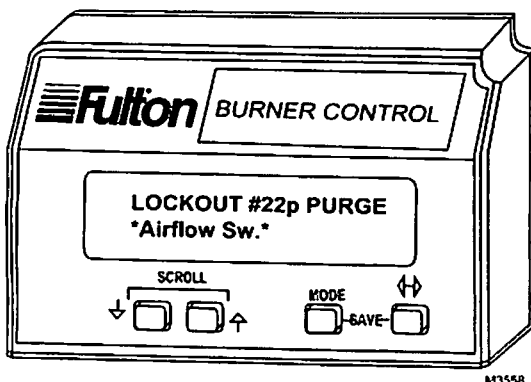

Fig. 1. Lockout message state 1.
1. State 1, see Fig. 1. Display of first state message lasts six seconds. The first line on the display shows the word LOCKOUT, followed by the fault code number and a lower case letter if an Expanded Annunciator is connected. The status of the relay module at the time of the lockout is shown on the right side of the first line as either INITIATE, STANDBY, PURGE, PFEP, MFEP, RUN or POSTPRG. The lockout reason corresponding to the fault code number is displayed on the second line, highlighted by asterisks to each side. If the lockout reason is being enhanced due to the presence of an Expanded Annunciator, a lower case letter follows the fault code number. This letter corresponds to the first-out code supplied by the Expanded Annunciator.